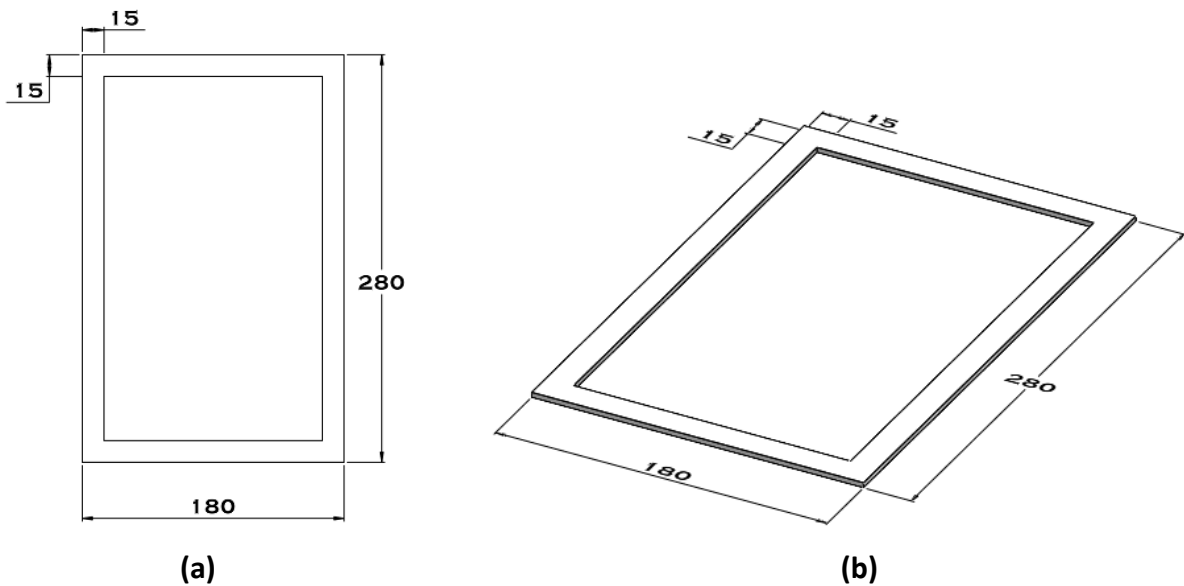

Figure 8: Dimensions of flexible sheet for boxes (a-isometric b-top view)
6. The robotic arm to be brought by the competitor must be in the articulated robot arm category with at least 4 degrees of freedom. Optionally, the degrees of freedom can be increased. Different types of robot arms (Cartesian, Cylindrical, Spherical, Sled, Scara and Parallel etc.) will not be accepted. Figure 8 shows an example image of an articulated type robotic arm.
The boxes into which the robotic arm will place the objects it carries are made of the same colored plexi material as the objects to be carried. The boxes will be placed on the competition platform in the area limited by the white plexi sheets shown in Figure 8.